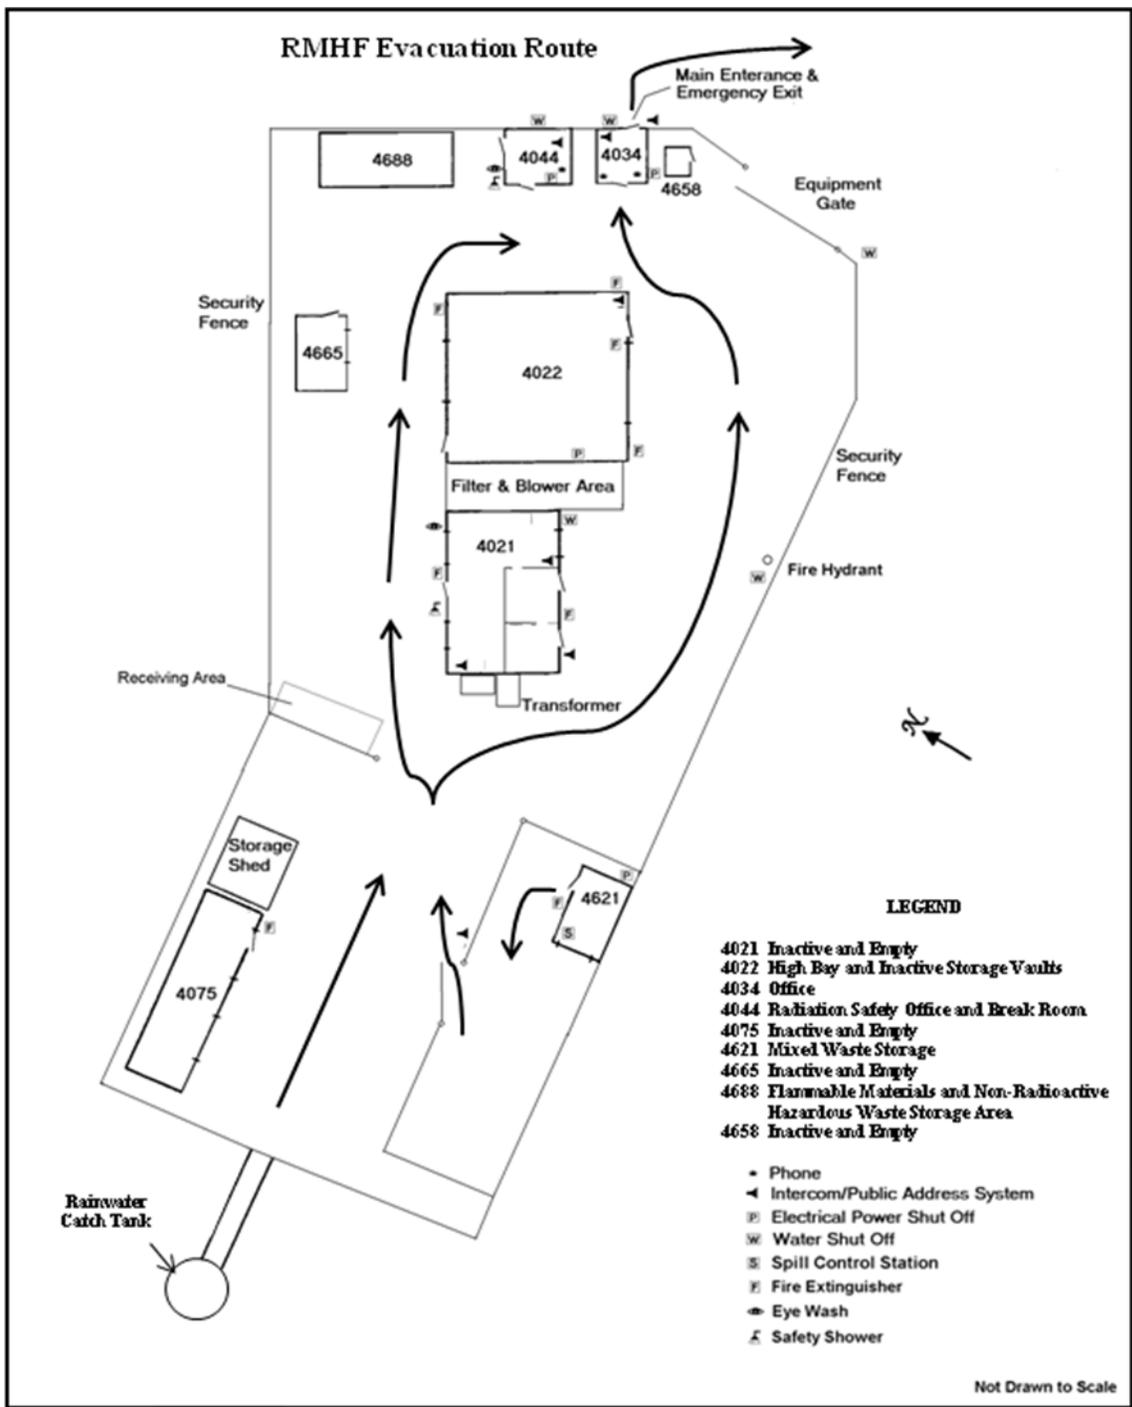

Figure 2. RMHF Evacuation Routes
- 1) Personnel shall follow the evacuation route on Figure 2 to Emergency Assembly Area (EAA) "3" (designated EAA3).
Facility evacuation route: Shown in Figure 2 of this document.